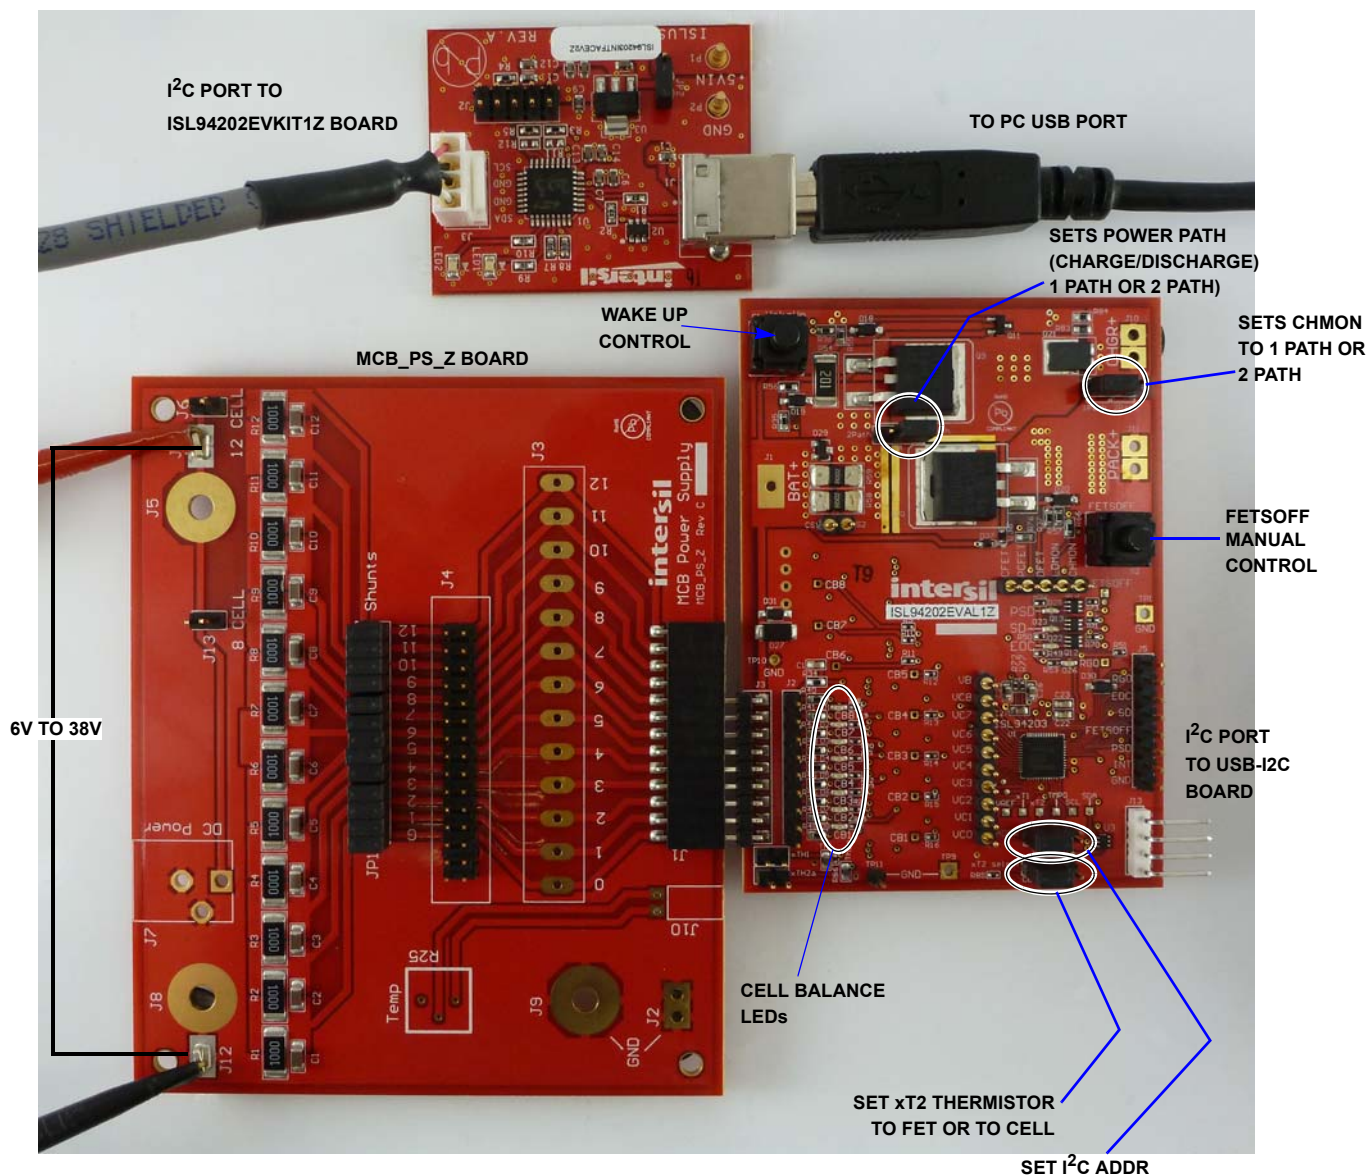

FIGURE 4. ISL94202EVKIT1Z BOARD SETUP
- Step 5: Connect the ISL94202 board directly to the MCB_PS_Z board at connector J1. Make sure the board is connected on the ground side of J1 (see Figure 4).